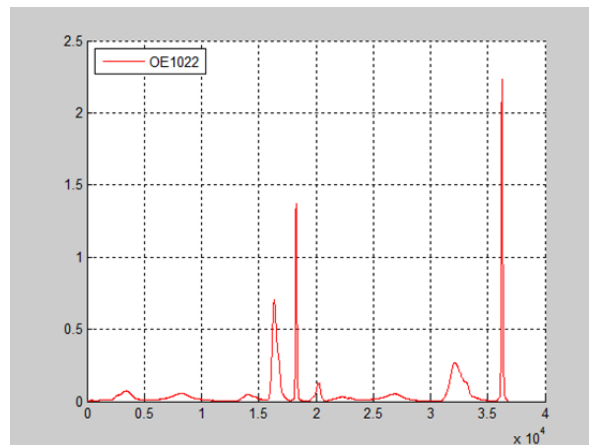

Fig.104 OE1022 Detected Spectrum Curve Chart
4. Start the spectral measurement and collect data from the data collection platform. Then, you will get an uncalibrated spectral image as is shown in Fig.104